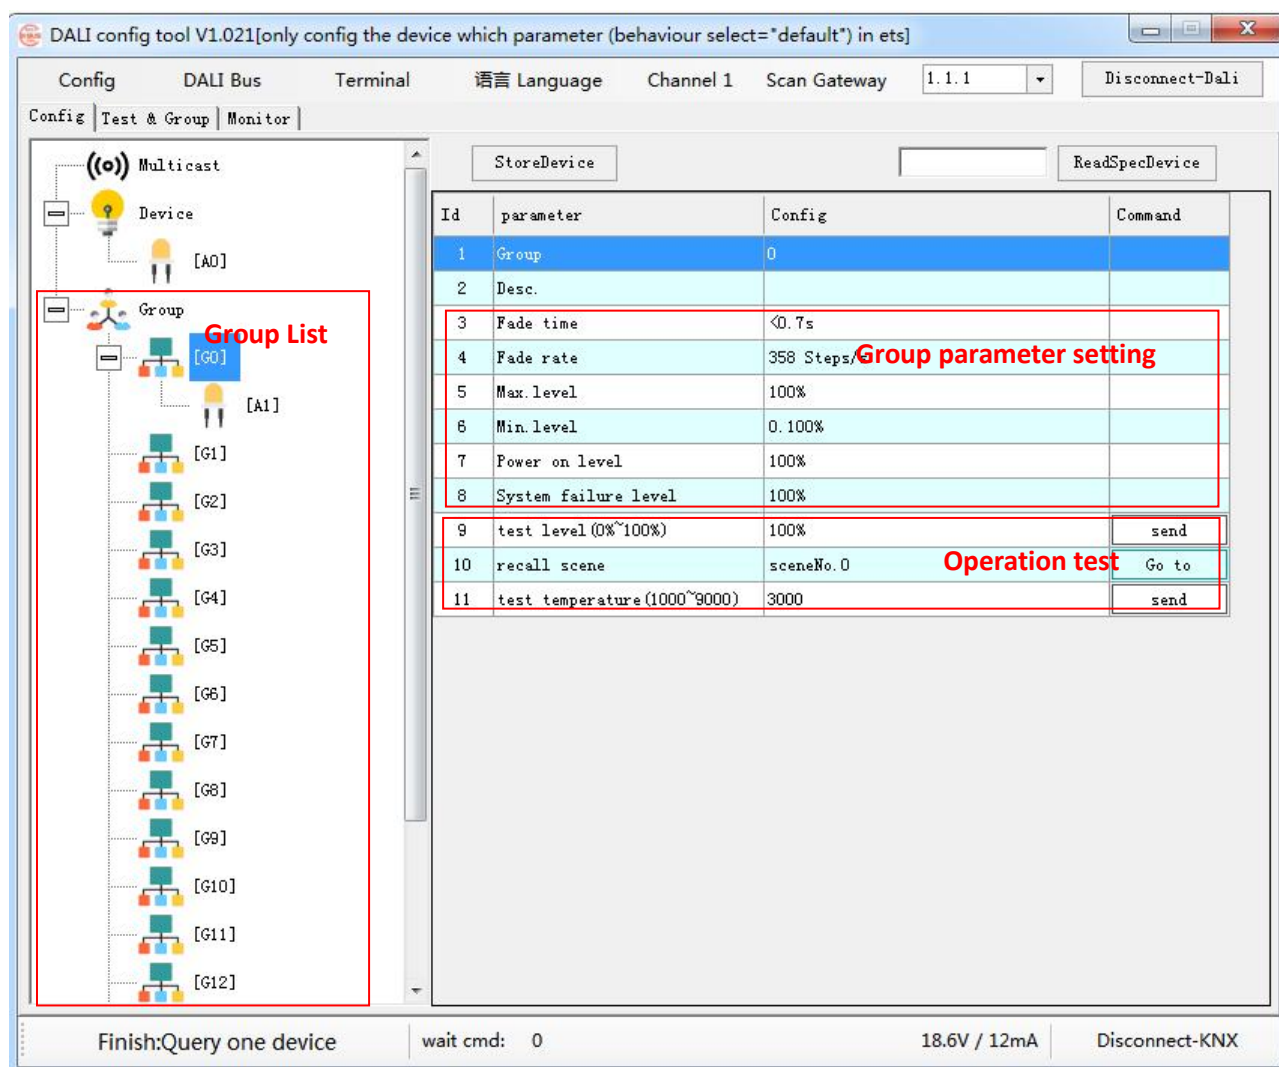
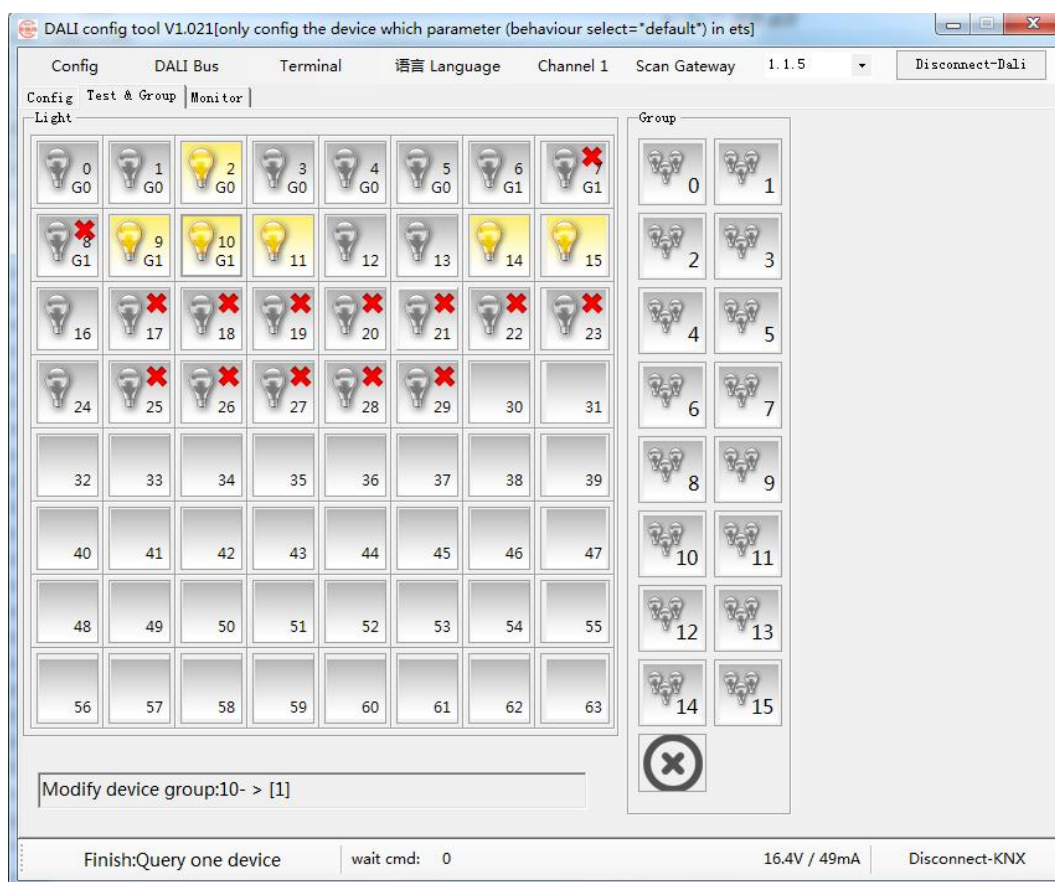

Fig.3.8 Group configuration interface
Fig.3.10 Test&Group Interface
② **ReadDevice:** Select a DALI device in the device list, click button "ReadDevice", read all the information of the device through DALI bus and synchronously display in the software, such as group configuration, scene configuration and parameter setting, etc.
③ **StoreDevice:** Store the modified configuration of the device. After storing, this device on the DALI bus can be directly applied to the saved configuration.
④ **ReadSpecDevice:** Input device address in the text box and read the status information of the device, at the same time, parameter configuration of the device in the debug software will also synchronously update. For example: when a DALI device is damaged and need to be replaced, user can read the status information of the device first, then store the damage information to the new device after it is replaced with the new device. **(Note: ensure DALI addresses of both new and old device are the same.)**
⑤ **Addr.:** Display the DALI address of the selected DALI device, users can modify DALI address in the “Test&Group” window interface, as shown in the following Fig.3.10.
⑥ **Desc.:** Device Description, to add a name for DALI device, for example, 2#lamp.
⑦ **Device Type:** Display DALI device type, such as DT6 for displaying 6 in the column
⑧ **Group:** Display the group that DALI device belongs to. “NotJoin” for not assigning to any group. Users can assign DALI devices to a group in the “Test&Group” window interface, as shown in Fig.3.10. After the device is assigned to the group, it will displays in the group list, as shown in the following Fig.3.8.
⑨ **Parameter Setting:** Parameter setting of the DALI device including fade time, fade rate, max.level brightness, min.level brightness, power on level, system failure level and Phys.Min.level brightness, in which Phys. Min.level brightness is the characteristic of the DALI device and cannot be modified.
⑩ **Scene:** Select one of the DALI devices, scene assignment of this device can be checked in the device list, up to 16 DALI scenes can be configured, users can modify the preset brightness value of each scene. After finishing the modification, click “StoreDevice” button on the upper window. KNX scene number of the corresponding scene can be configured through ETS parameters. “Mask” means the device has not assigned the scene, “Not change” means the brightness of this scene has no change.
⑪ **Operation test:** Select a DALI device to be tested in the device list, its brightness, scene recall and color temperature can be tested.
Group configuration interface as shown in the Fig.3.8, which is used for group parameters setting and group testing.
Test&Group interface as shown in Fig.3.10, here you can view all the connected DALI devices on the DALI bus, including ballasts, lamp failure status, grouping, and so on. Switch operation of each lamp and each group, modification of DALI device address and group assignment of DALI device can be operated.